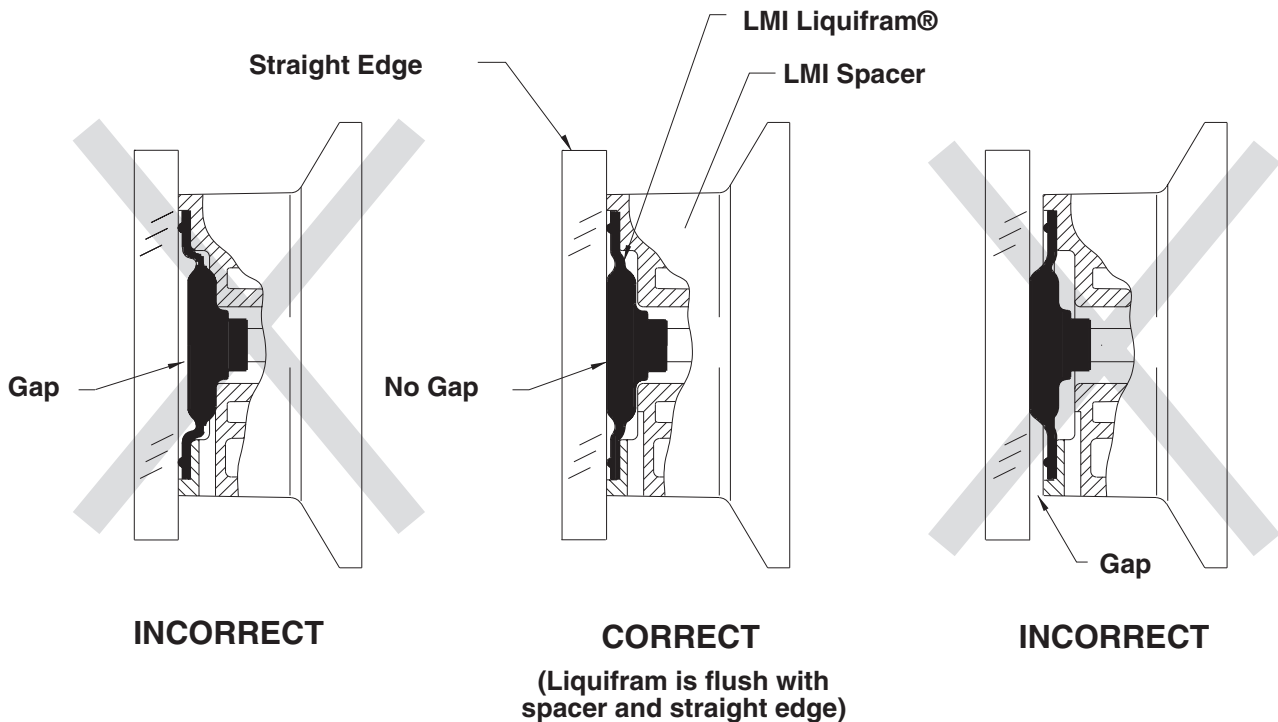

figure 1
5. Grasp the outer edge of the Liquifram® and adjust by screwing it in or out so that the center of the Liquifram® is flush with the outside of the spacer edge (see figure 1).
6. Once the Liquifram® is properly positioned, remount the pump head to the spacer using the four (4) screws. Tighten in a criss-cross pattern. After one week of operation, recheck the screws and tighten if necessary.